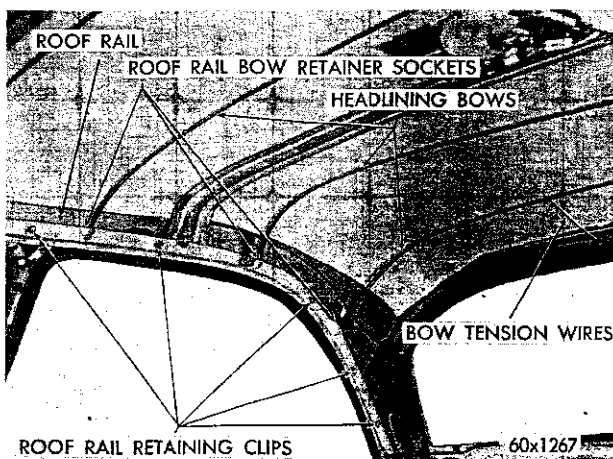

Fig. 40—Roof Rail Bow Retainer Sockets
**NOTE:** The roof rails on all models using cloth headlining are strung through retaining loops sewed into the lining. Each bow is held in place by an attaching loop pressed into each roof rail and sprung in place when installed to keep the headliner taut (Fig. 40).
(5) After pulling the headlining from the windshield and rear window opening, remove the headlining bows from the roof rail retainers. Use care not to damage the lining.
(6) Remove the bow retaining springs and remove the headlining from the roof, the rear quarter and